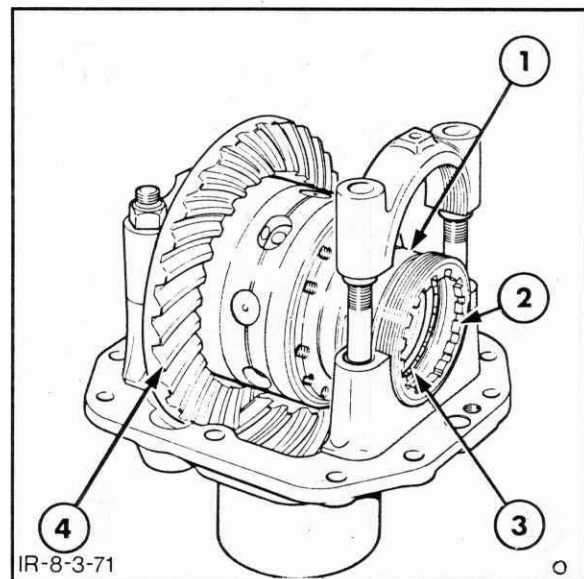

Figure 7-134
12. Place the assembled differential housing into the support housing and position the bearing outer tracks, support housing end caps, and bearing adjuster rings in their respective positions, Figure 7-134. Ensure that the centering bushes are in position and that the relationship between the ring gear and pinion is correct. The ring gear should always be to the right of the pinion when viewed from the input side.